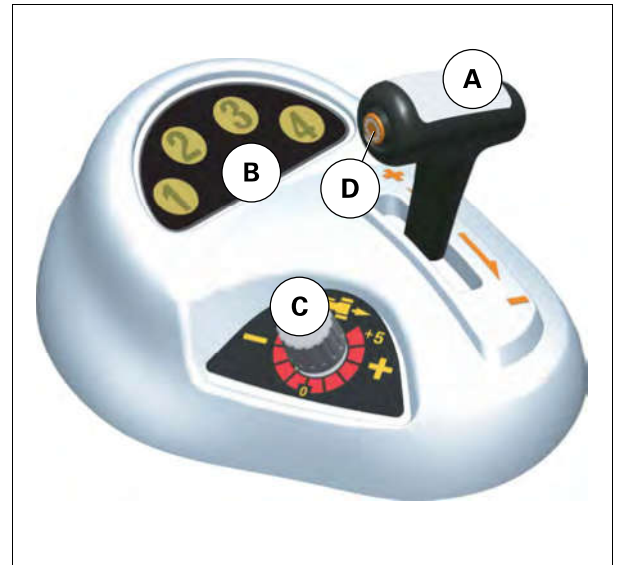

Fig. 3.
Transmission lever (A) fig. 3 controls all the ratios. The selected range (1, 2, 3 or 4) is displayed on screen (B) fig. 3. The selected Powershift ratio (A, B, C or D) is displayed on the instrument panel.
**NOTE:** Shuttle lever (E) may also be used to change the Powershift ratios.
The Powershift ratio is changed by operating lever (A) fig. 3 or the shuttle lever. Shifting can be carried out in pulses or by holding the lever in position and changing ratios one after the other.
Push lever (A) fig. 3 forwards to shift to the higher ratio, pull back on lever (A) fig. 3 to shift to the lower ratio.
Pull back on lever (A) fig. 3 to shift to the higher ratio, push lever (A) fig. 3 forwards to shift to the lower ratio.
It may be necessary to place the gearbox in neutral (disengage the transmission), so that, for example, the tractor can be towed. Press button (D) fig. 3 until display (B) fig. 3 goes out.